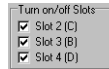

Figure 2-7. Enable Slots
8. Select and check each of the **Turn on/off Slots** check boxes to enable the corresponding internal slots (Figure 2-7).